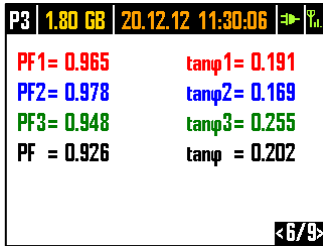

Fig. 10. Screen 6 with power factors and $\tan\phi$.
On screen 6 (Fig. 10) Power Factors (PF) are presented along with $\tan\phi$ (i.e. the ratio of reactive power to active power).